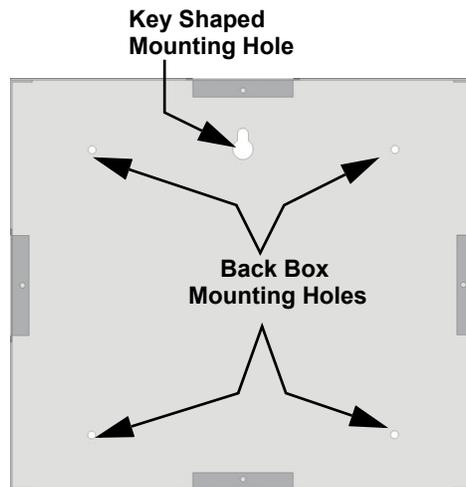

Figure 4-14 Back Box Surface Mount Holes
- To properly mount the back box, insert a single screw into the key shaped mounting hole. Do not tighten all the way. See Figure 4-14. Place a level on top of the back box, with the back box level insert the rest of the mounting screws.